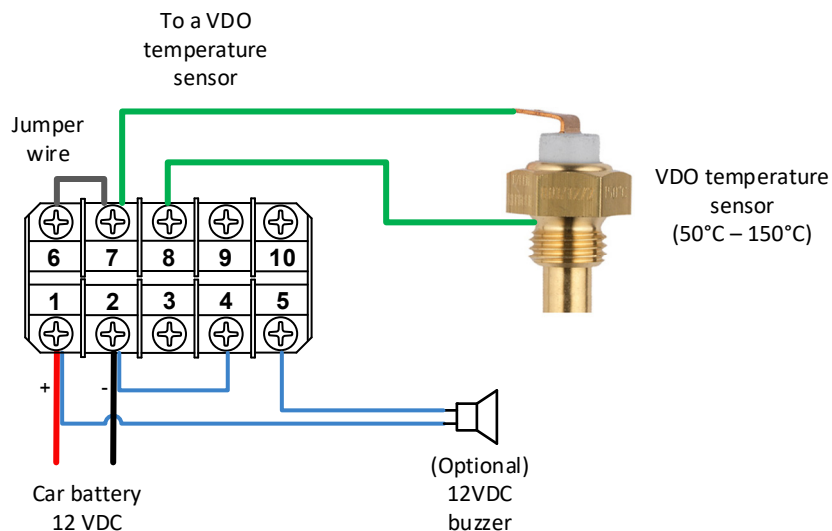

Figure 1. Connect a VDO temperature sensor to a SYL-1813 gauge.
1. Connect the VDO temperature sensor to Auber's automotive gauge as shown in Figure 1. For a VDO sensor that has only one pole on the top, the sensors' shell serves as the common ground as well as the other pole for measuring the sensor's resistance. Connect the top pole and the shell of the VDO sensor to the gauge's terminal 7 and 8. There is no polarity in wiring to these two terminals.